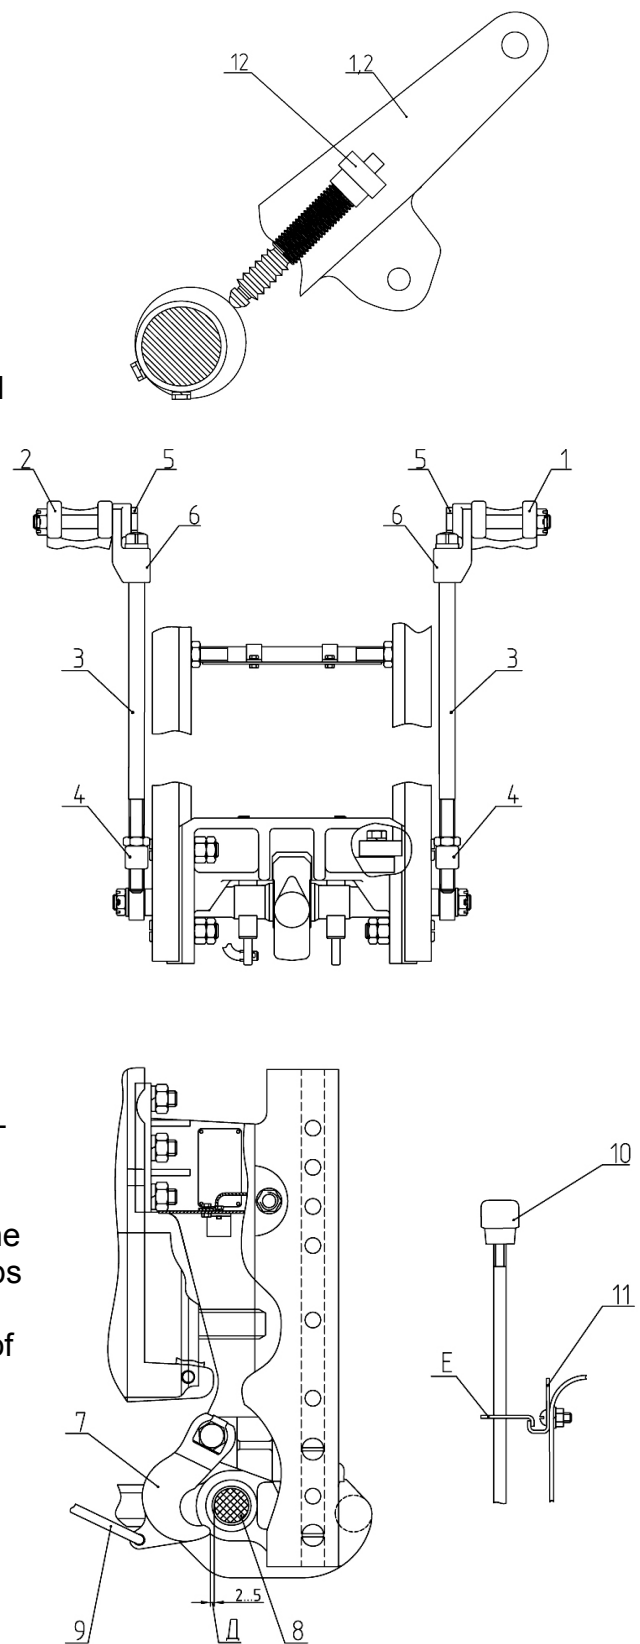

Fig. E-39
ATTENTION! Prior to beginning the work with semi-trailers as well as prior to each adjustment of the position sensor (in case of mounting of the EHR) determining the position of the lift levers (1) and (2) (see Fig. E-38), it is necessary to turn out the screws (3) (see Fig. E-39) from the shackles (4) to ensure the free travel of the levers to avoid breakage of pins (5) of the angle braces.
persing pump slide-valve bands; hence, the oil fed to the dispensing pump from the feed pump is returned into the HSU oil tank. When turning the steering wheel, slide valve (3) (Fig. E-39) of the measuring pump shifts with respect of sleeve (5), thus, ensuring oil feed to the turn hydraulic cylinders in the amount proportional to the angle of turn of the steering wheel.